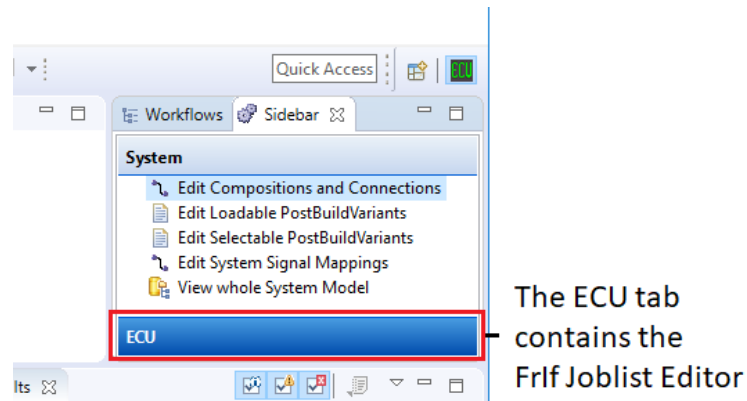

Figure 4.4. Locate the FrIf Joblist Editor
2. To start the FrIf Joblist Editor, locate and press the tab **ECU** in the **Sidebar** view as shown in Figure 4.4, "Locate the FrIf Joblist Editor".